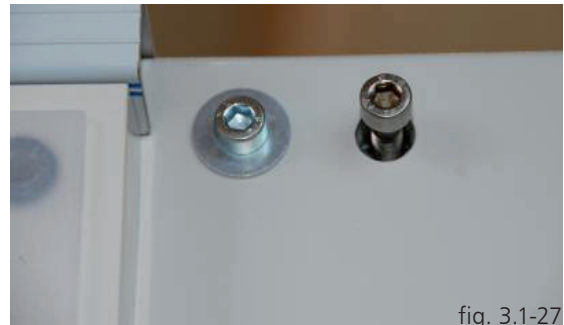

fig. 3.1-27
Step 21 Now screw the two (2) socket head screws **M8x40** into the pre-assembled T-Nuts at the upper cross member (*fig. 3.1-27*).